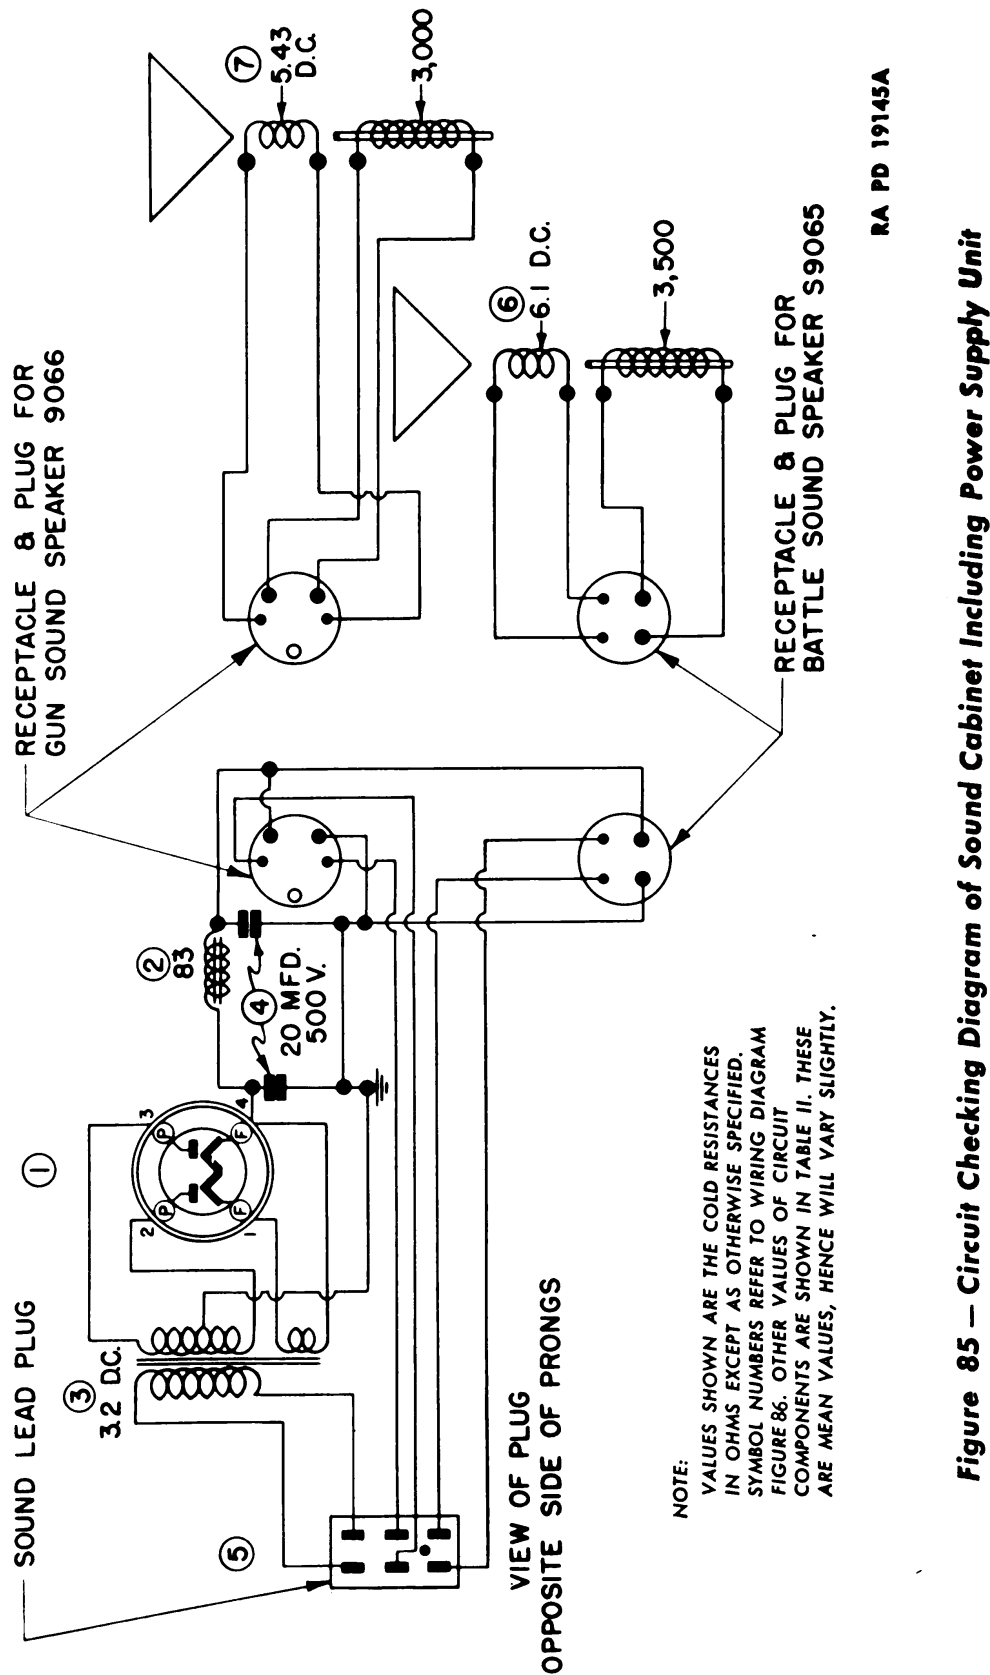

Figure 85 — Circuit Checking Diagram of Sound Cabinet Including Power Supply Unit
(1) Consult figures 85 and 86 before proceeding with disassembly.